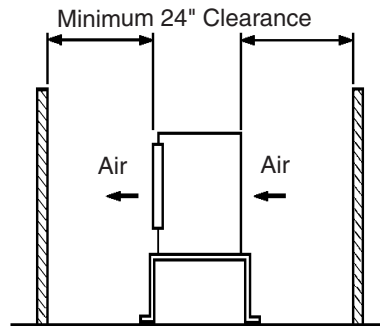

Fig. 1
- A dry and well ventilated area with 24" clearance in both front and rear for proper air circulation and ease of maintenance and/or service should they be required. See Fig. 1.